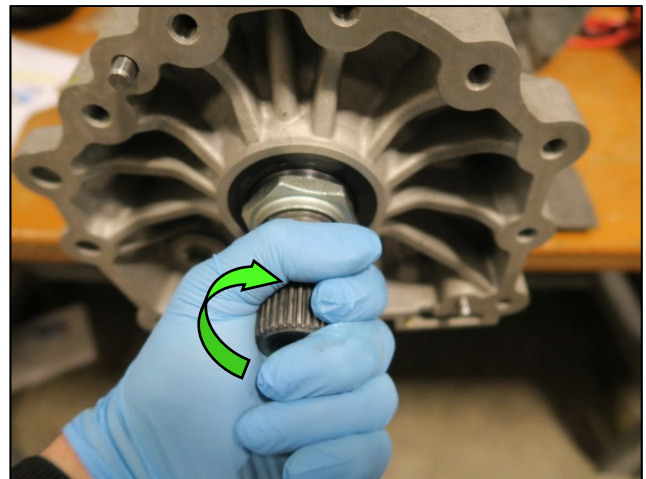

Figure 19
17. While holding the Parking Pawl upward, slowly rotate the Output Shaft **clockwise** until the Parking Pawl and Transmission Case holes are aligned (Figure 19 shown with Transmission removed from vehicle and is for reference only).